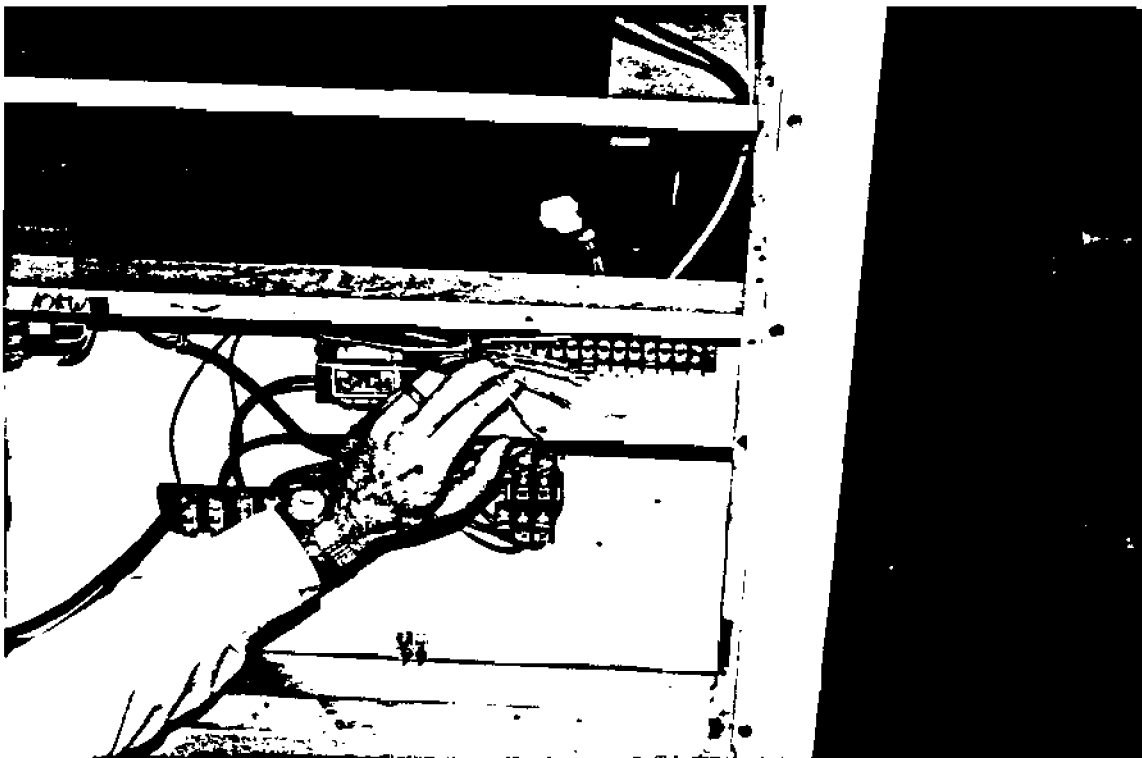

FIGURE 5
6. Thread the leads of the female portion of the electrical harness thru the bulkhead fitting of the compressor cover into the electrical control panel portion of the Hi-Boy unit. Connect the numbered leads to the corresponding point in the unit terminal block. (SEE FIGURE 5)